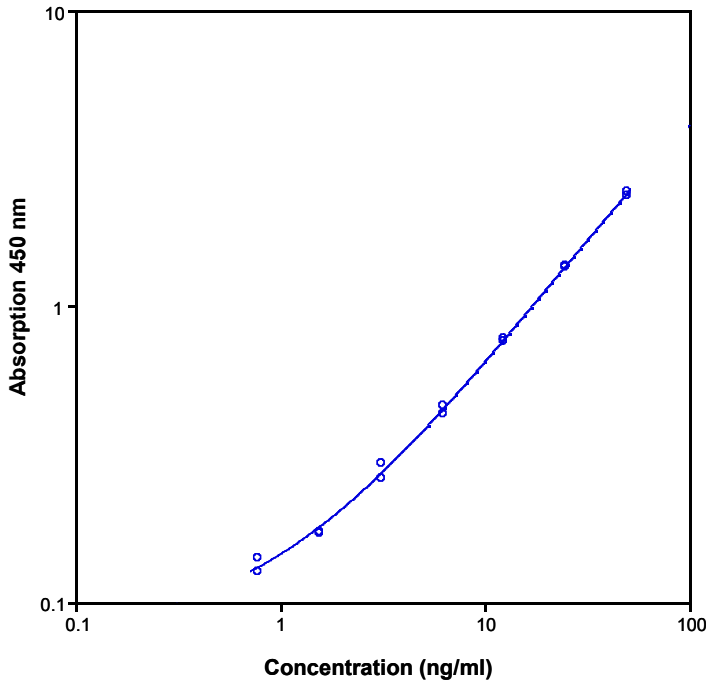

Fig. 8 Representative standard curve for Human APRIL ELISA Kit . Human APRIL was diluted in serial 2-fold steps in Sample Diluent.
- A representative standard curve is shown in Figure 8.